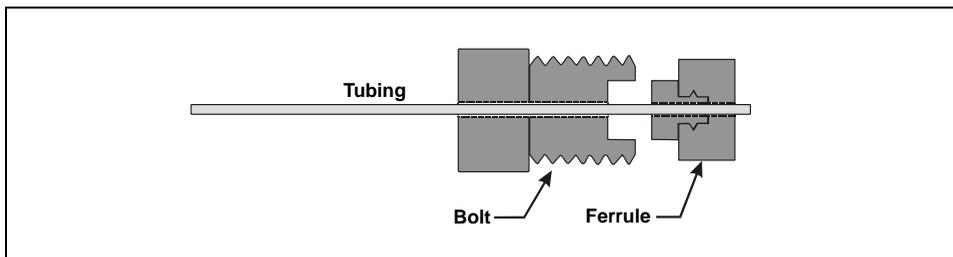

Figure 5-9. Installing the Ferrule Fitting and Bolt
13. Slide the bolt, large end first, onto the end of the tubing and then slide the ferrule, small end first, onto the tubing (see Figure 5-9). Slide the ferrule about 10 mm (3/8 in) past the end of the tubing.